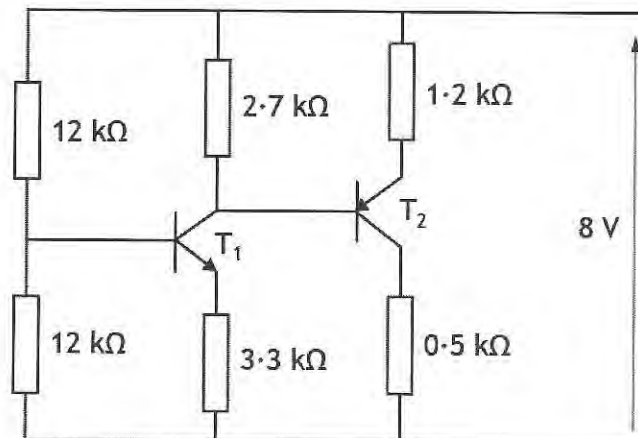

Fig Q3
3. In the two stage voltage amplifier shown in Fig Q3 both the npn and pnp transistors have high current gains. Transistor  $T_1$  has a volt drop of 0.7 V between base-emitter and transistor  $T_2$  has a volt drop of 0.3 V between base-emitter.